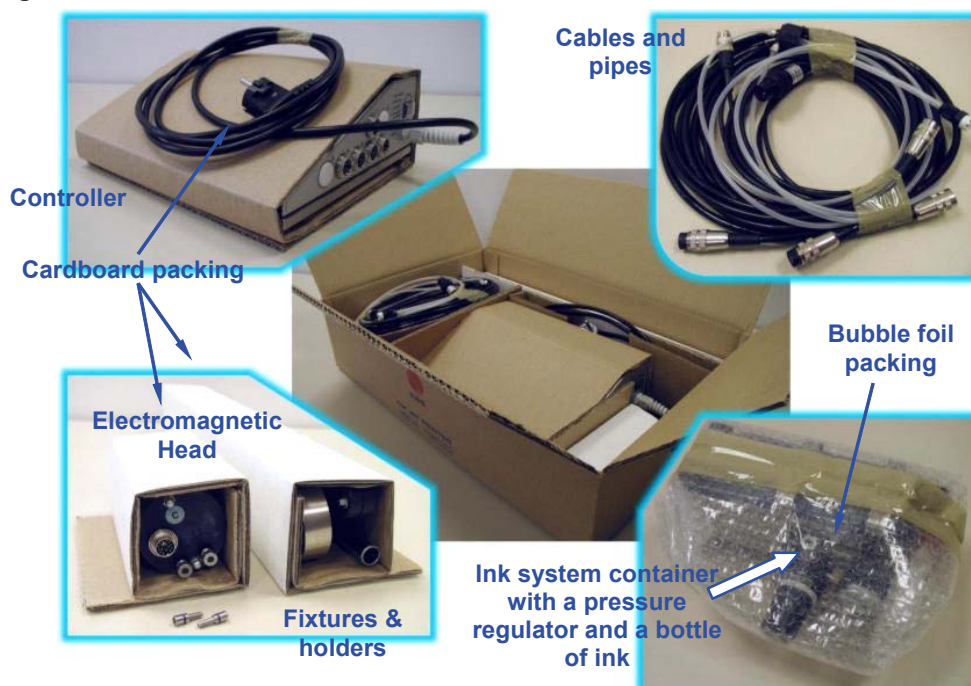

Fig. 7.2.1.
5. Wrap the printing system components (the controller, print head, ink system container, container and head fixtures and holders) with corrugated board or bubble foil - see Fig. 7.2.1